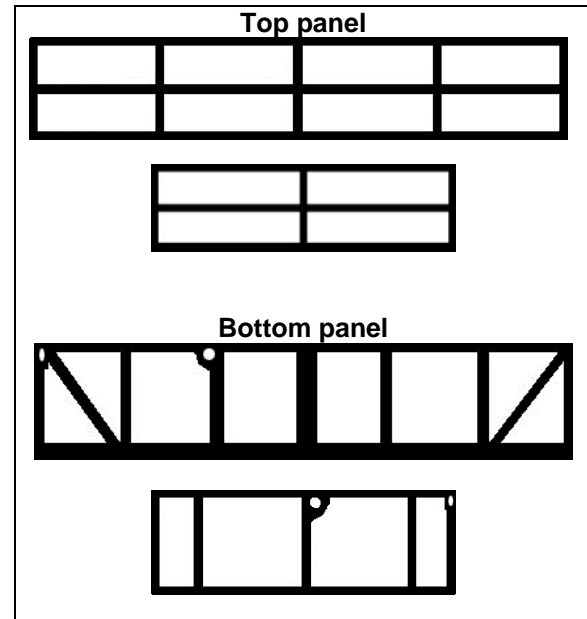

FIGURE 51 TOP AND BOTTOM PANEL INSTALLATION - SIKA 206 G+P APPLICATION
4. Apply Sika 206 G+P on panel as shown in FIGURE 51;